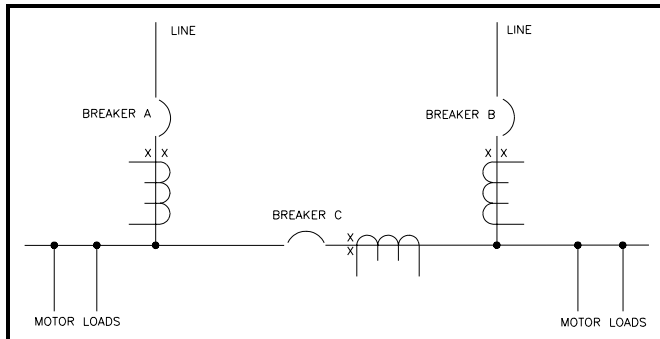

Figure 3.5 Power Distribution
- Power Distribution. Typically you will encounter three conditions when monitoring power distribution (Refer to Figure 3.5 p.10):